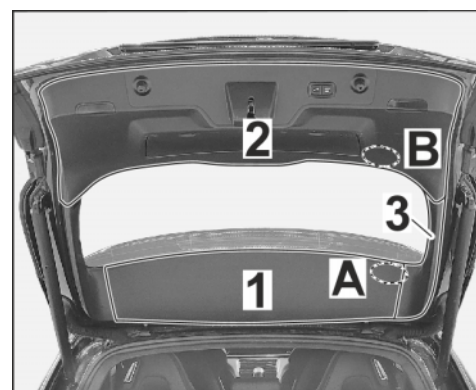

Figure 5 (Sport Turismo)
1.3 Rear lid area (⇒ *Figure 5 (Sport Turismo)*)
1.3.1 Remove trim panel for center window frame (⇒ *Figure 5 (Sport Turismo) -1-*). ⇒ *Workshop Manual '709219 Removing and installing trim panel for rear lid'*
- Remove trim panel for rear lid, bottom. ⇒ *Figure 5 (Sport Turismo) -2-*
- Remove trim panel for center window frame. ⇒ *Figure 5 (Sport Turismo) -3-*